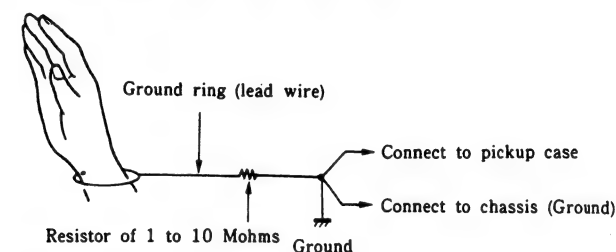

Fig. 13
(2) Handling the unit mechanism (Fig. 13)
When handling the pickup mechanism and the unit mechanism, use a ground ring such as the one illustrated in Fig. 13. (A ground ring can be constructed using ordinary lead wire.)